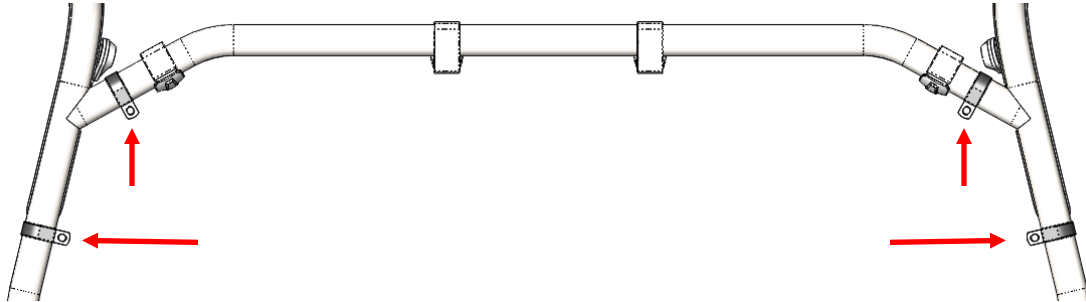

Figure 2: Approximate locations of the loop clamps.
1. Place the provided loop clamps in the approximate mounting location on the roll bars. The *Audio Mini* brackets will rest on the loop clamps and be tightened in the following steps. See Figure 2.